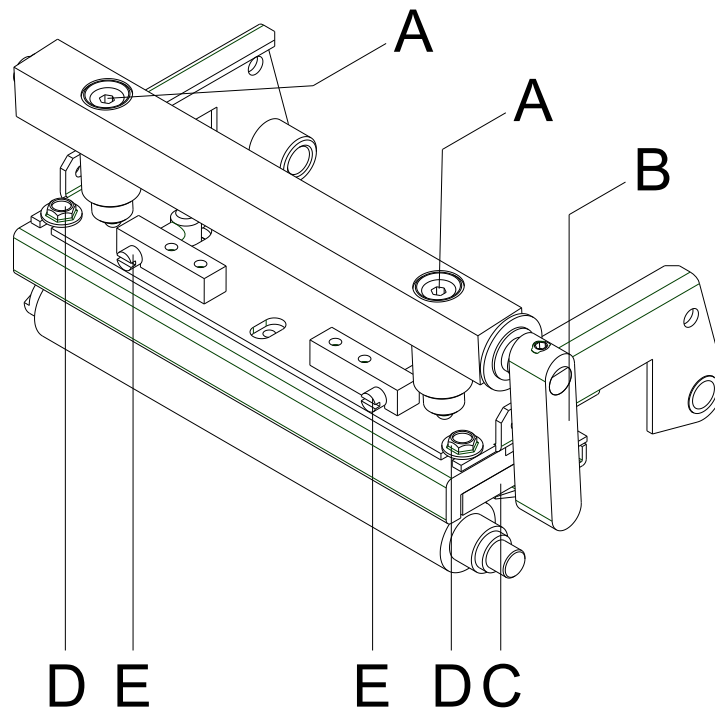

Figure 20
1. Loosen the screws (D, Figure 20) with a hexagon key by approx. $\frac{1}{4}$ rotations.
2. Adjust the parallelism with the adjusting screws (E, Figure 20).
4. Tighten again the screws (D, Figure 20).
1. Turn the pressure screws (A, Figure 20) to change the pressure of printhead.
2. Turning the pressure screws (A, Figure 20) in clockwise direction results in a pressure increase.
3. Turning the pressure screws (A, Figure 20) counter clockwise results in a pressure decrease.